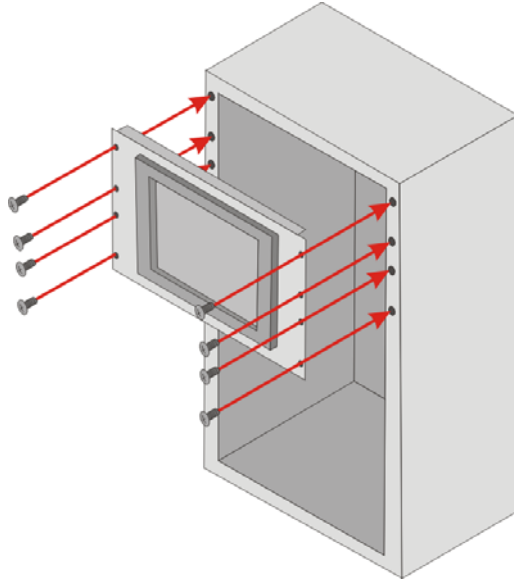

Figure 3-17: Install into a Rack/Cabinet
Step 4: Slide the flat panel PC with the attached rack/cabinet bracket into a rack or cabinet (**Figure 3-17**).
Step 5: Once the flat panel PC with the attached rack/cabinet bracket has been properly inserted into the rack or cabinet, secure the front of the rack/cabinet bracket to the front of the rack or cabinet (**Figure 3-17**).